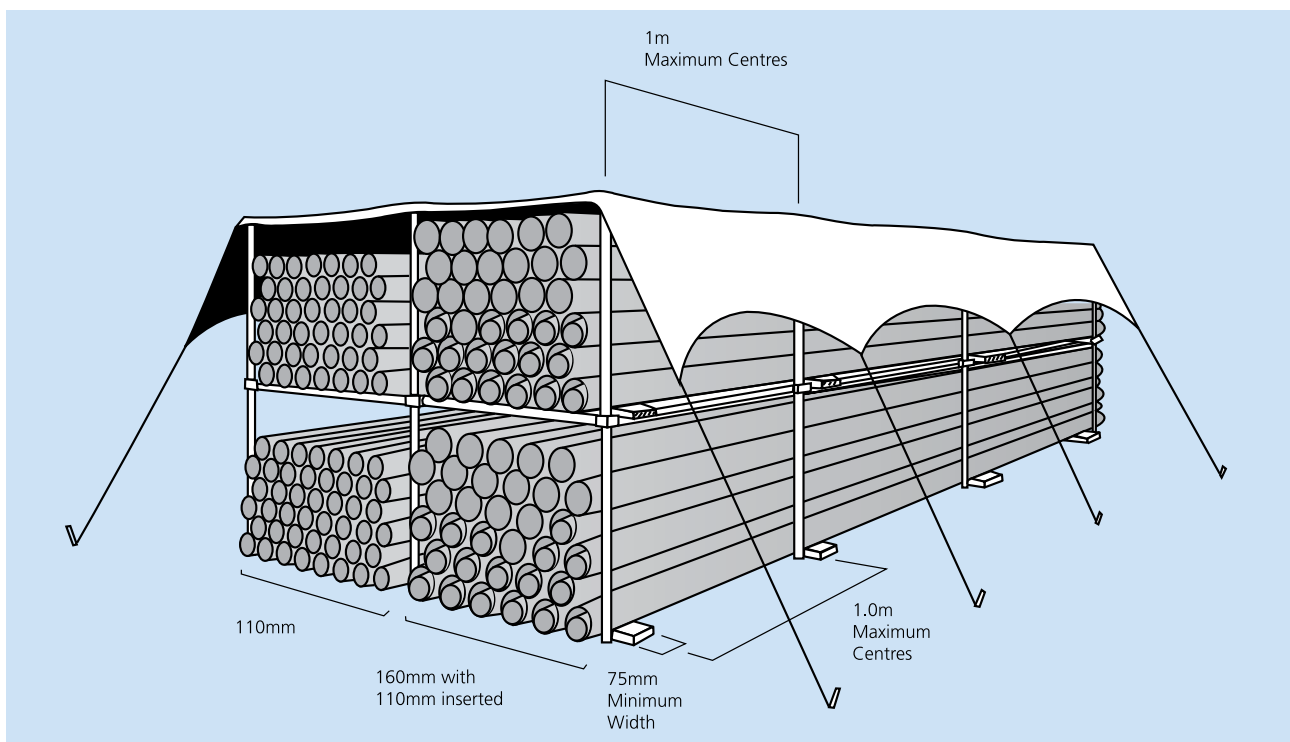

Fig. 1 Pipe stacking
- Provide side support with 75mm wide battens at 1m centres (Fig. 1).